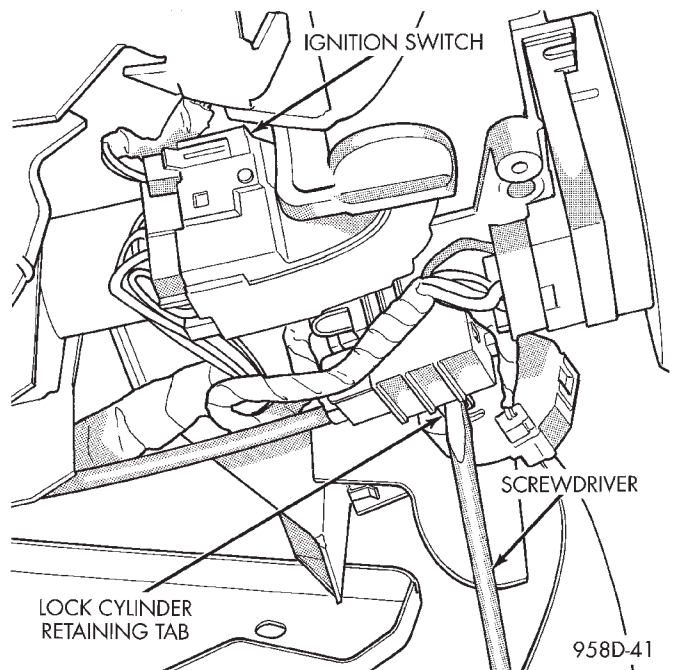

Fig. 59 Lock Cylinder Removal
(12) Place key cylinder in RUN position. Depress lock cylinder retaining tab and remove key cylinder (Fig. 59).